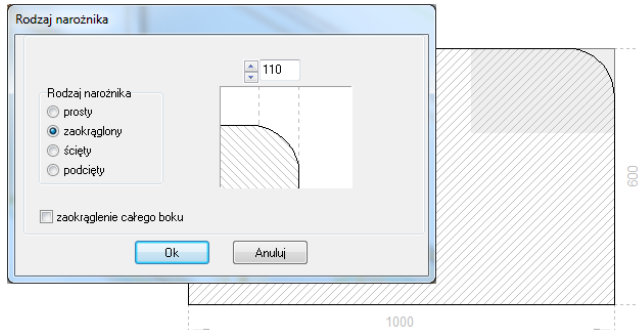

Fig. 201 – rounded corner
- Enter the rounding radius in the appropriate edit box (Fig. 201).